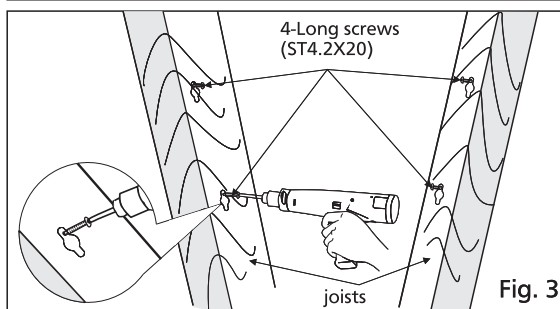

Fig. 3
4. Fix four long screws (ST4.2X20) partially into joists at the four marked locations. (Fig. 3)